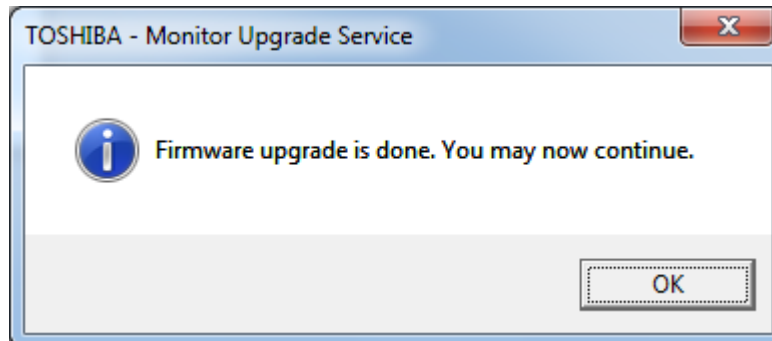

Figure 17: MUS is done
Figure 17 shows the notification when all firmware updates (e.g. TCx Display 6149 (Model 5Cx) touch/video, Toshiba SurePoint Displays touch/video) are done.
3. The system will automatically reboot and the MUS process will commence. Wait for the MUS message indicating that all is complete (see Figure 17).